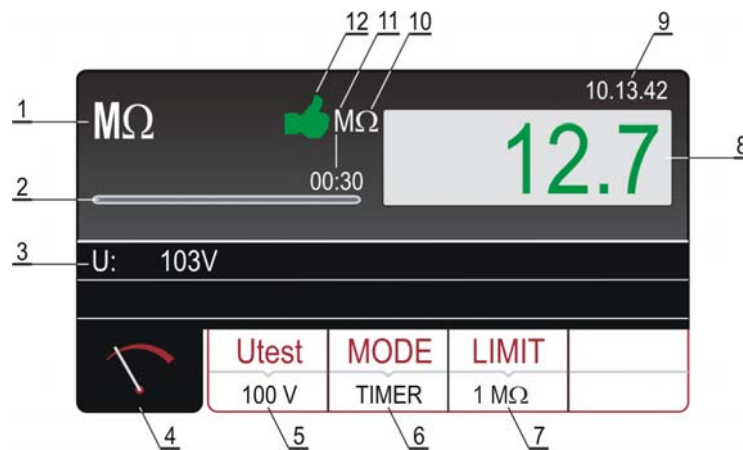

Figure 11: Display with RISO test result
- 7) Carry out the measurement by pressing the **START/STOP** button. The measurement will start to run and will be stopped after pressing the **START/STOP** button again (MANUAL mode) or after elapsing set measurement time (TIMER mode) or after reaching stabile result (AUTO mode). Test result will currently be displayed in green colour (result higher than or equal to set limit value) or in red colour (result lower than set limit value). Final result will be equipped with green  symbol and with beep-beep sound (result OK) or with red  symbol and with longer beep sound (result not OK). See the display outlook with test result on figure 11.